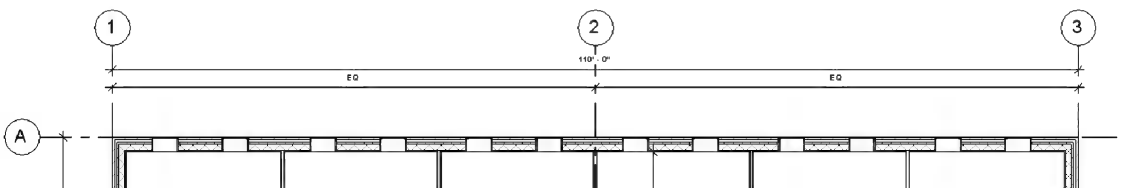

FIGURE 2-3.3 Windows added to north wall
6. Using the **Copy** command, in a way similar to copying the doors in the previous exercise, copy the two windows into each office as shown in Figure 2-3.3. (Do not worry about exact dimensions.)